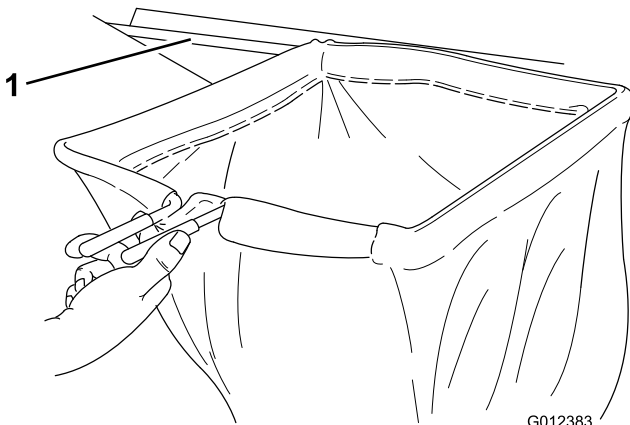

Figure 9
1. Slide the grass bag under the grass catcher cover and position the front edge of the bag rod into the screen support bracket on the bag frame (Figure 9).
7. Slide the grass bag under the grass catcher cover and position the front edge of the bag rod into the screen support bracket on the bag frame (Figure 9).